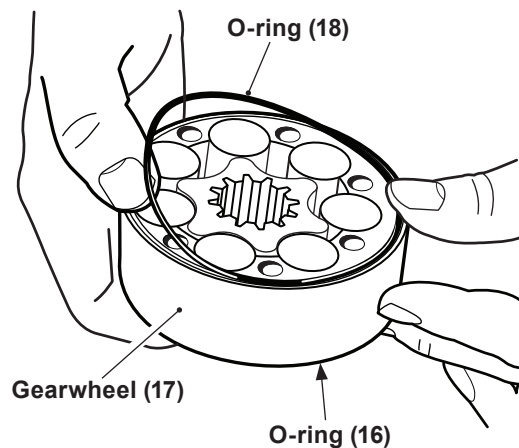

Figure 14, Gearwheel Set/O-ring
1. Mount seal (5), washer (4), and ball bearing (3) onto output shaft (7). *See page 11.*
2. Install check valves (11), needle bearing (12), output shaft assembly, retaining ring (2), O-ring (13), and distributor plate (14). *See pages 12 - 15.*
3. Place *new* O-rings (16, 18) in the O-ring grooves of the gearwheel set (17). *See figure 14.*